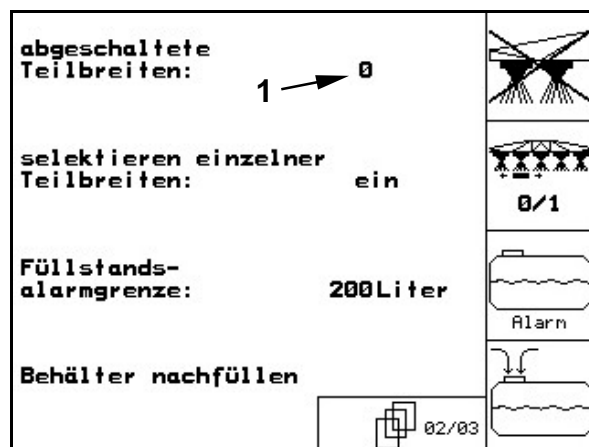

Fig. 43
5. Via the functional field  you can switch off permanently individual boom sections. The indicated figure (Fig. 43/1) informs about number of the permanently switched off boom sections (Figure 0 = no boom section switched off). Please refer to chapter "Permanently switching on/off the boom sections", page 74.